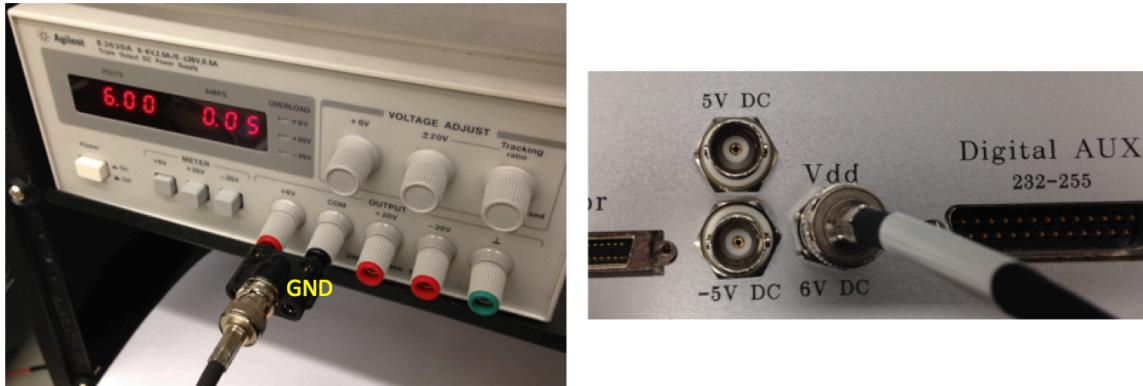

Figure 8: Agilent E3630A power supply plugged into Vdd of WHISPER Box.
- e. An external 6V DC power supply must be connected to the Vdd BNC plug on the backside of the WHISPER Breakout Box (Figure 8). Note the current draw of 0.05-0.06A, which is the nominal value when no headstages are attached.